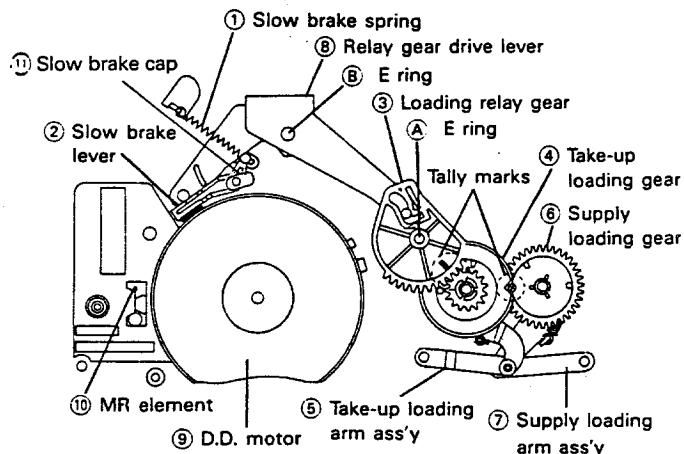

Figure 1-31.
2. In reassembling, match the tally marks on the gears, as shown in Fig. 1-31
1. Place the relay gear drive lever in the unloading state as shown in Fig. 1-31.
2. Set the relay shifter lever ④ to the main chassis; the shifter lever should be adjusted to the reverse guide spring hole in the main chassis. Then place the master cam so that the cut-off part of the boss ⑤ should face the direction of arrow ⇒ ⑤.
3. Place the half-loading reciprocating lever ① so that its cam follower comes in the outermost cam groove. Now attach the E ring ①.
- Preferably hook the half-loading reciprocating spring ⑤ before attaching the lever. It is easier to set up.
4. Turn the master cam ③ somewhat clockwise until the pinch roller lever's cam follower comes into the master cam's groove ④. Then attach the E ring ②.
5. Rotate the master cam ③ by hand to make sure all the four levers (relay gear drive lever, relay shifter lever, half-loading reciprocating lever and pinch roller lever) are right in the cam grooves.